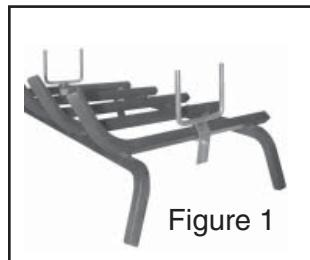

Figure 1
1. Remove the grate from the carton and attach the log locators to the 2 outer bars of the grate with bolts and nuts. The log locators should be positioned at the middle of the bars with bolt slots facing towards fireplace side walls (Figure 1). Do not tighten until after Step 4.